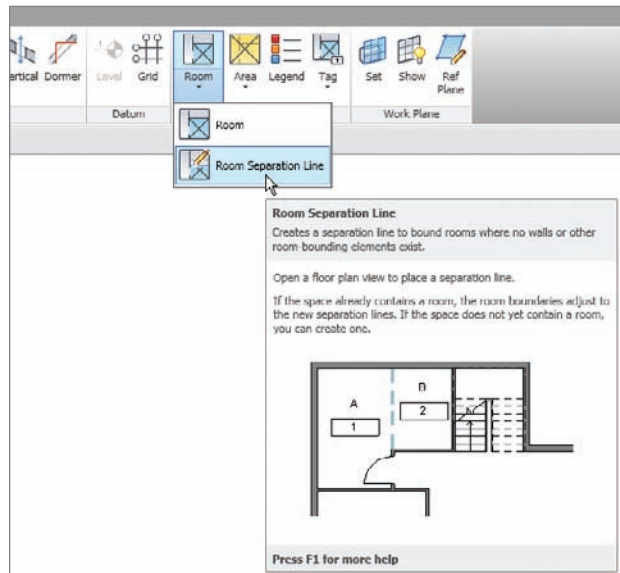

FIGURE 15.25 Click the Room Separation button on the Room & Area panel of the Home tab.
4. On the Room & Area tab of the Home tab, click the Room Separation Line button, as shown in Figure 15.25.